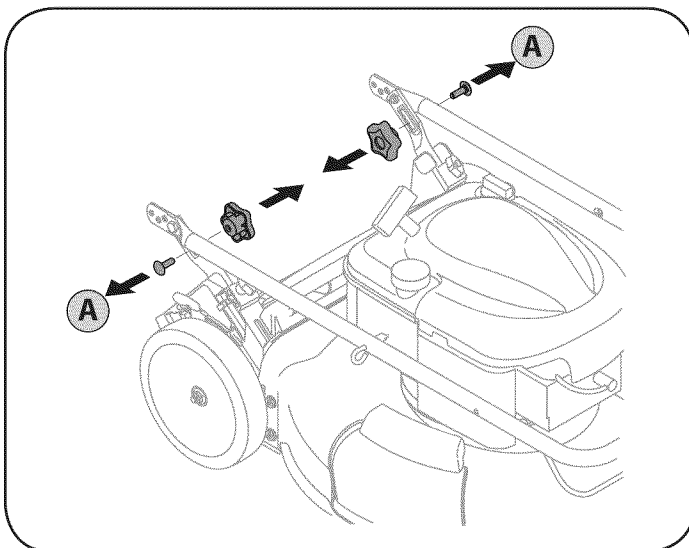

Figure 1
- A. Remove wing nuts and carriage bolts handle as shown in Figure 1. Do not loosen or remove adjacent hex head screws.